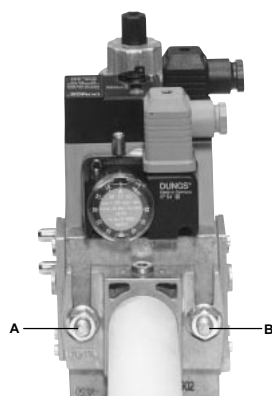
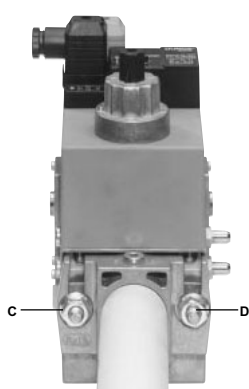
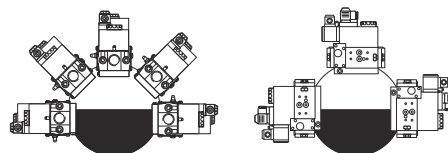

Fig. 3
Fig. 4
Fig. 6
- 4 according to the reference showed on Fig. 3, fix the flange to the boiler's stud bolts **D**, without completely fastening;
3. tighten screws A, B, C and D (Fig. 3 - Fig. 4), according to the mounting positions (Fig. 6);